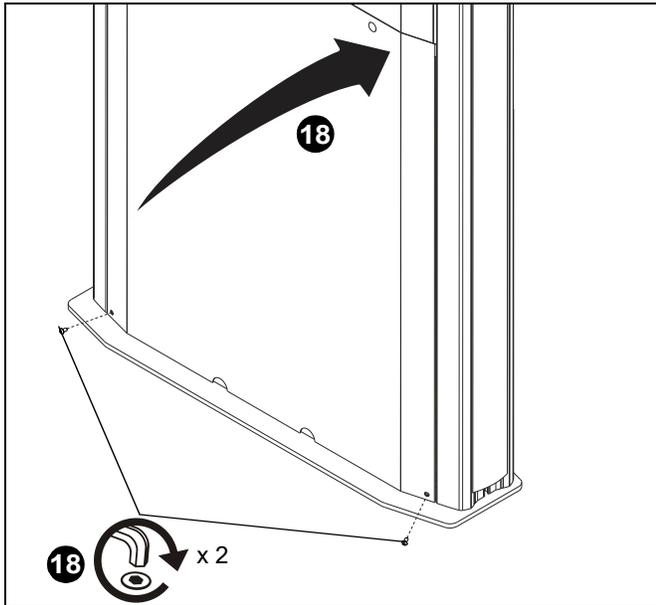

Figure 11
18. Reinstall front cover by using two screws removed in Step 14. (See Figure 11)